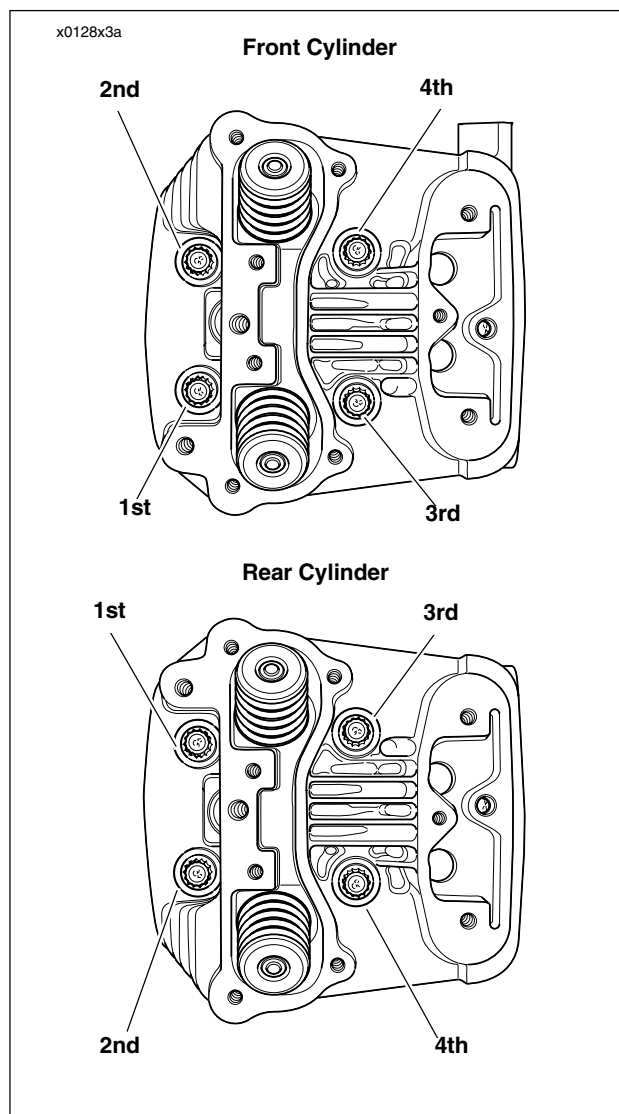

Figure 3-63. Head Screw Loosening/Tightening Sequence
See Figure 3-63. Distortion to the head, cylinder and crankcase studs may result if head screws are not loosened (or tightened) gradually in the sequence shown.
11. See Figure 3-63. Loosen each head screw 1/8-turn following the sequence shown.